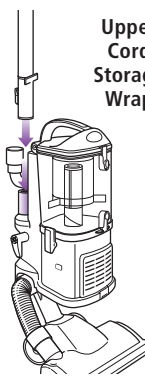

Fig. 11
- 3** Attach the end of the extension wand to the tube on the back of the detachable canister until it clicks into place. **(Fig. 11)**